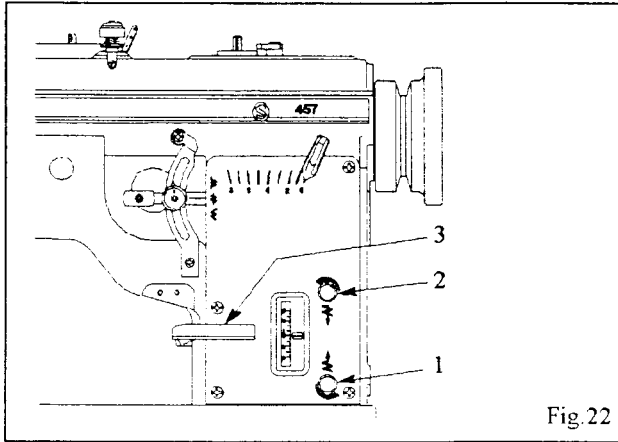

Fig. 22
To regulate stitch length for forward feed, turn stitch length regulating screw stud (1), Fig. 22, clockwise to shorten the stitch length and counterclockwise to lengthen the stitch length.
To regulate stitch length for reverse feed, turn stitch length regulating screw stud (2), Fig. 22, clockwise to shorten the stitch length and counterclockwise to lengthen the stitch length.